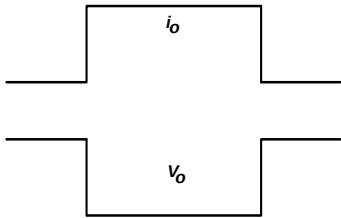
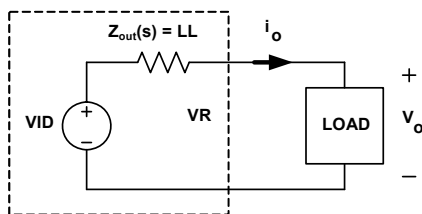

FIGURE 23. DESIRED LOAD TRANSIENT RESPONSE WAVEFORMS
FIGURE 29. VOLTAGE REGULATOR EQUIVALENT CIRCUIT
Assuming the compensator design is correct, Figure 23 shows the expected load transient response waveforms if C_N is correctly selected. When the load current I_{core} has a square change, the output voltage V_{core} also has a square response.
Figure 23 shows the desired load transient response waveforms. Figure 29 shows the equivalent circuit of a voltage regulator (VR) with the droop function. A VR is equivalent to a voltage source (= VID) and output impedance $Z_{\text{out}}(s)$. If $Z_{\text{out}}(s)$ is equal to the load-line slope LL, i.e., a constant output impedance, then in the entire frequency range, V_o will have a square response when I_o has a square change.